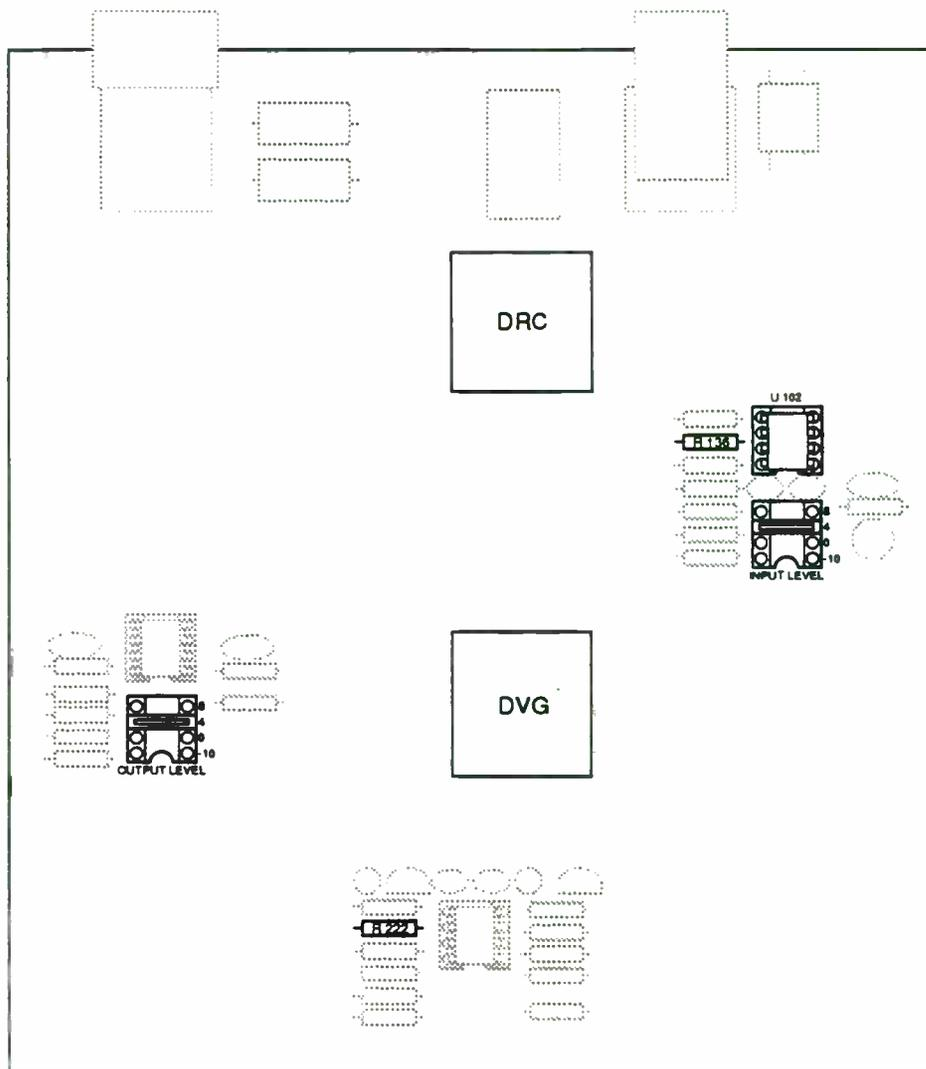

Fig. 8-2. Simplified view of Model 300 Audio Board (parts side) showing relative locations of several key components discussed in this chapter.
3. Remove the (2) 8-32 Phillips screws on the front of the board(s).
6. Locate the INPUT LEVEL level set dip on each Audio Processing Board, as shown in Fig. 8-2 (on page 8-3).
8. Locate the OUTPUT LEVEL level set on Audio Processing Board (see Fig. 8-2), and repeat the process used in step 7 above.
3. Remove the (2) 8-32 Phillips screws on the front of the boards.
6. Remove the (4) 8-32 Phillips screws securing the Audio Processing Boards to the chassis.
8. Replace R222 (5.6 M $\Omega$ ) on the Audio Boards with a 2.7 M $\Omega$ , 1 % film resistor (see Fig. 8-2 on page 8-3).
2. Locate the integrated circuit designated U102 (see Fig. 8-2 on page 8-3) on the right-hand side of the (lower) Audio Board(s). This board is accessible without removing the (top) Display Board.